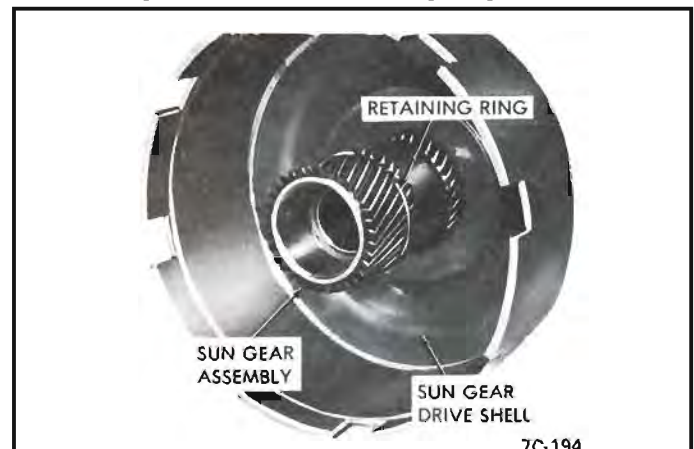

Figure 71 Front Retaining Ring Removal
3. Remove front retaining ring from sun gear. See Figure 71.
1. Install sun gear to drive shell front retaining ring, and install into drive shell. *See Figure 71.* Use a new ring and do not overstress when installing.